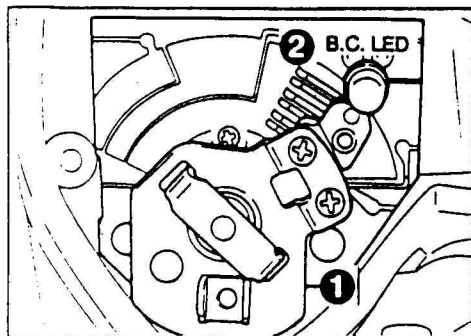

Fig. 2
2. Turn the mode selector ① to the B.C. Turn the VR2 and so adjust that the B.C. LED ② will start to light or flash between 7.34V and 7.06V (displayed on digital tester). (See Figs. 2 and 3.)
3. Turn VR1 and so adjust that the B.C. LED ② will flash or goes out between 7.04V and 6.76V.